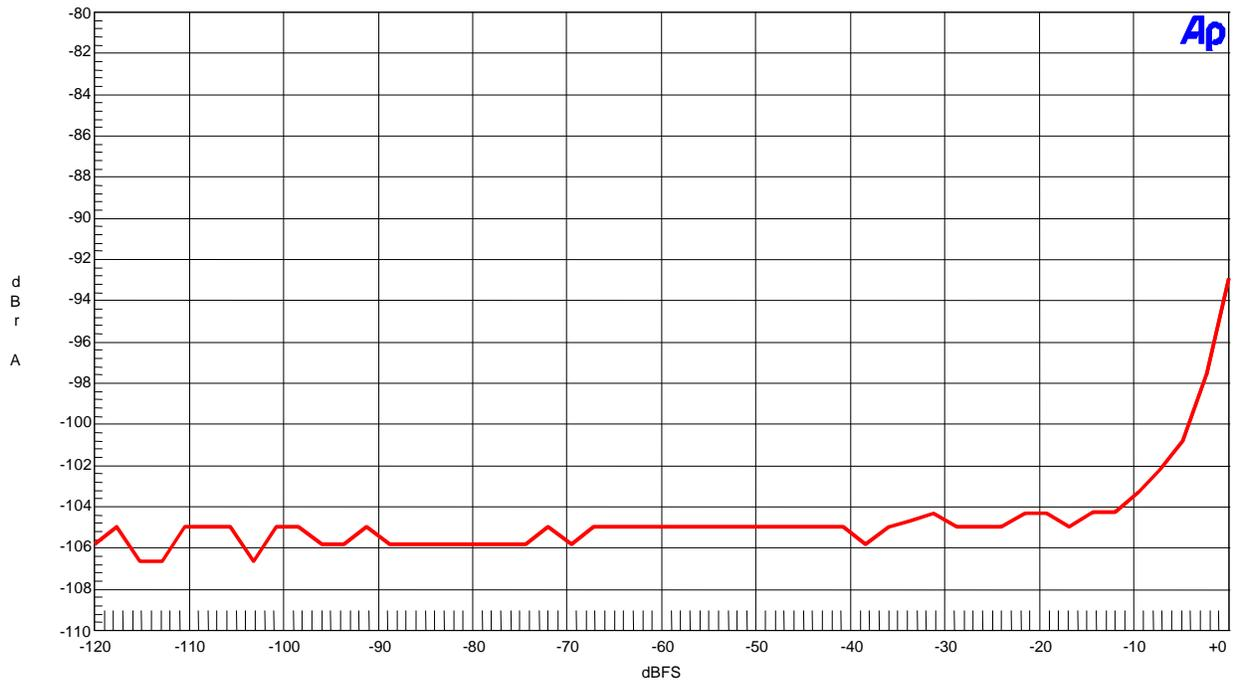

Figure10. THD+N vs Input Level (fin=1kHz)
- Figure10. THD+N vs Input Level (fin=1kHz)